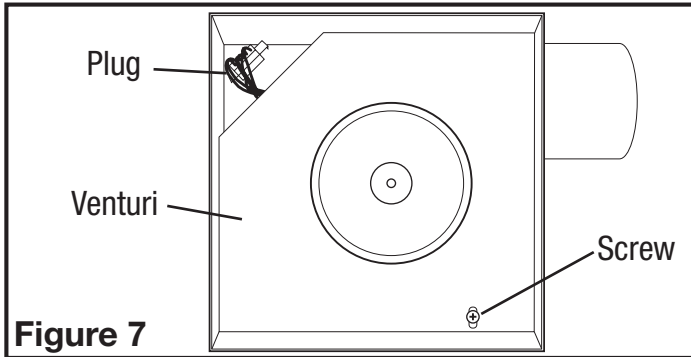
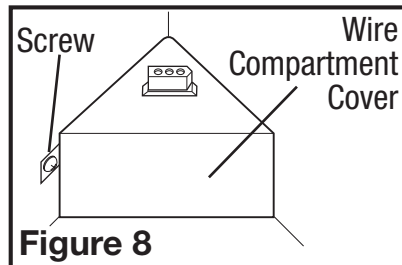

Figure 7
Figure 8
- 1b. Internal Wire Compartment: Remove the screw holding the venturi in place. Lift the venturi up and at an angle to slide it out of the housing (**Figure 7**). Remove the wire compartment cover screw and place the cover in a secure place (**Figure 8**).